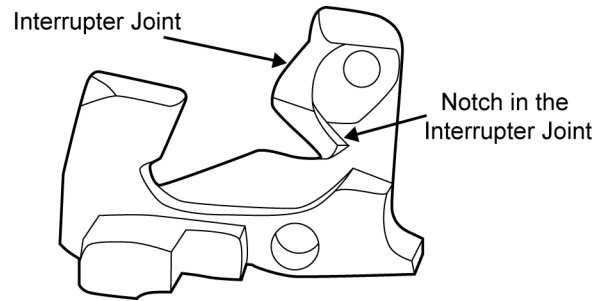

Figure 70. The Notch in the Interrupter Joint.
- k. If present, push the long leg of the interrupter spring to the rear until it seats in the notch in the interrupter joint. Refer to Figure 70.